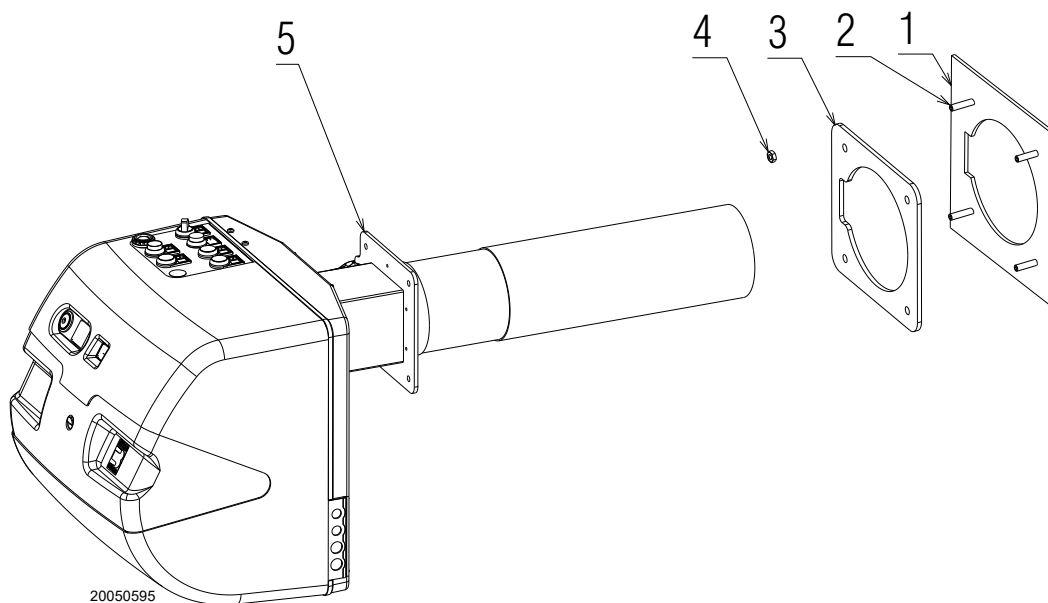

Fig. 16
- Screw the studs 2)(Fig. 16) onto the boiler plate 1)(Fig. 16).
- Position the refractory gasket 3)(Fig. 16).
- Fix the flange 5)(Fig. 16) to the boiler plate and tighten the nuts 4)(Fig. 16).